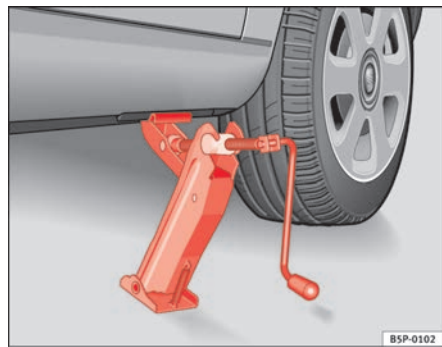

Fig. 171 Fitting the jack
- Align the jack so that the arm of the jack fits around the rib under the door sill and the movable base plate of the jack is flat on the ground ⇒ fig. 171.